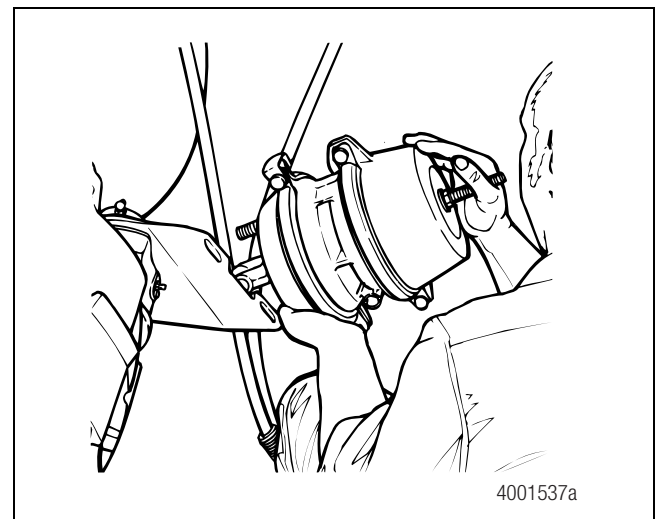

Figure 3.2
8. Remove the stud nuts that hold the air chamber to the bracket. Remove the air chamber. Figure 3.2.